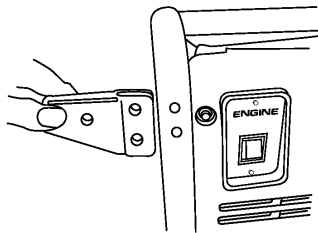

FIGURE 9: Handle Bracket to Frame
- Handle Brackets (2)
- Handle Bars (2)
- Rubber Handle Grips (2)
- 40 mm Washer Style Hex Bolts (6)
- 10 mm flange serrated nuts (6)
1. Hold handle bracket over pre-drilled holes on frame as shown in Figure 9.